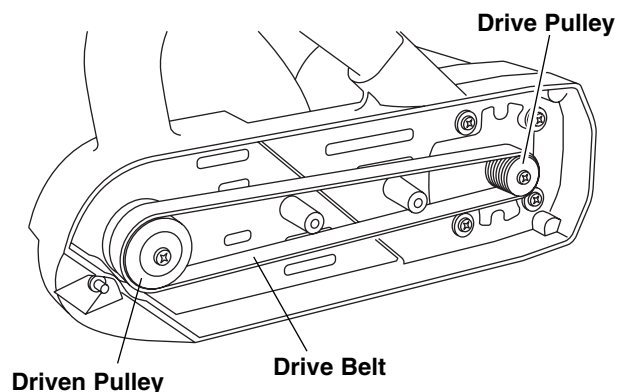

Figure 2. Belt Changes
2. Cut and remove the worn drive belt (Figure 2). Before installing the new drive belt, clean both pulleys thoroughly.